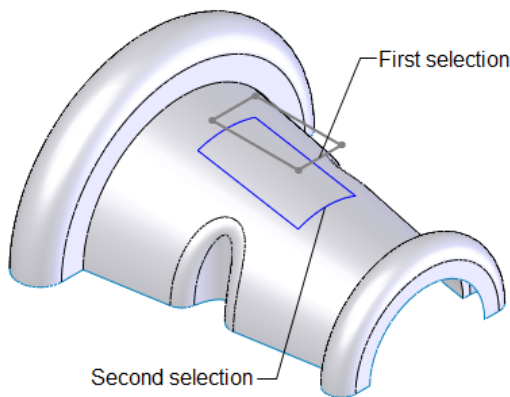
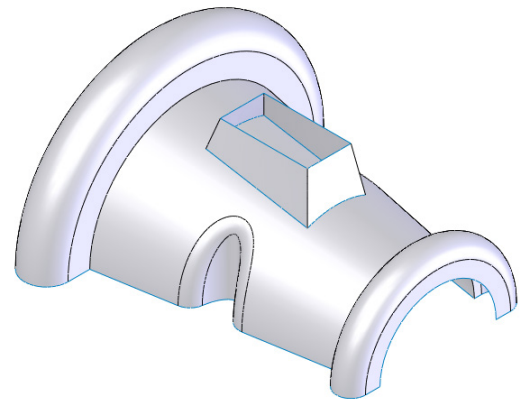

Figure 1-130 Section selected for the lofted surface
Figure 1-131 Resultant lofted surface
9. Select the loft section, as shown in Figure 1-130, and choose the **OK** button from the **Surface-Loft PropertyManager**. Figure 1-131 shows the model after creating the lofted surface.